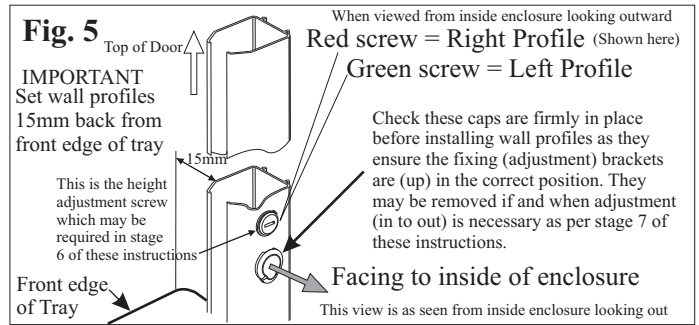

**Fig. 3**
**3 BEFORE INSTALLING WALL PROFILES:** Because it will be difficult to access after the door is installed, it is necessary to clip on the OUTSIDE wall profile covers BEFORE installing the wall profiles. Carefully remove two wall profile covers from the protective packing but DO NOT remove the protective film from the surface of the covers at this time. Clip on the covers to the faces of the wall profiles that will be on the outside of the unit as per the illustration in Fig. 3 and Fig. 4. **EXERCISE CARE WHEN HANDLING THESE COVERS TO AVOID DAMAGE.**